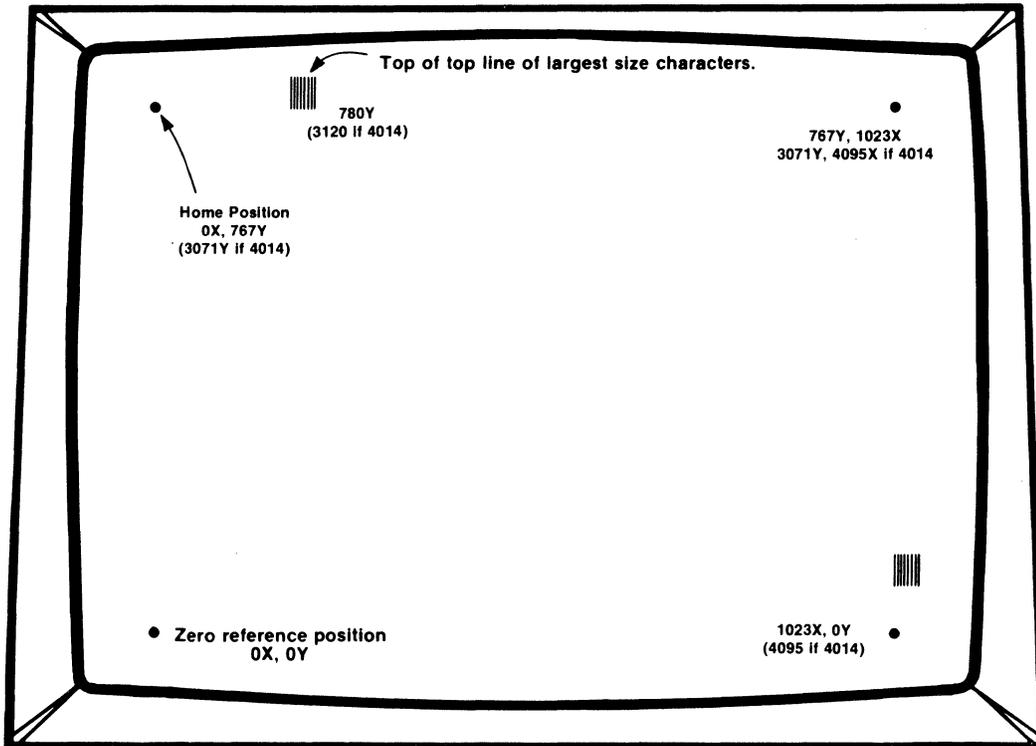

FIGURE 4-1. DISPLAY FORMAT
**ADDRESS**-An address is any point within the 1024Y by 1024X capability of the terminals beam positioning registers. In the standard format Y axes addresses higher than 799Y fall outside the screens specified display area. Figure 4-1 illustrates the display format.